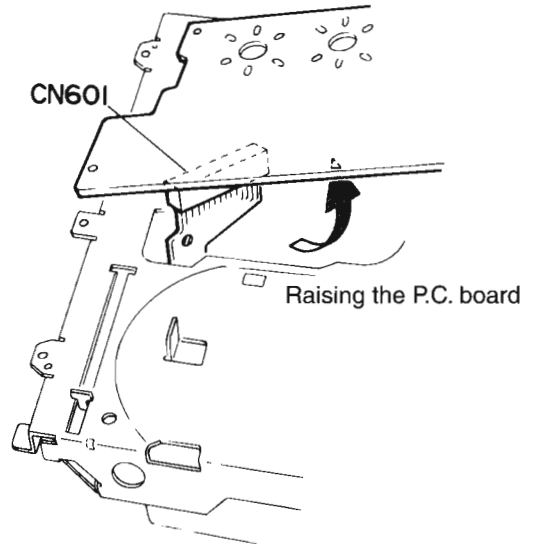

Fig. 11
6. While raising the P.C. board, perform soldering to fill the position on the flexible P.C. board outgoing from the CD pick up unit (see Fig. 11).
7. After turning over the CD traverse mechanism, remove the flexible P.C. board from connector CN601 on the CD traverse mechanism control & servo P.C. board (see Fig. 11).